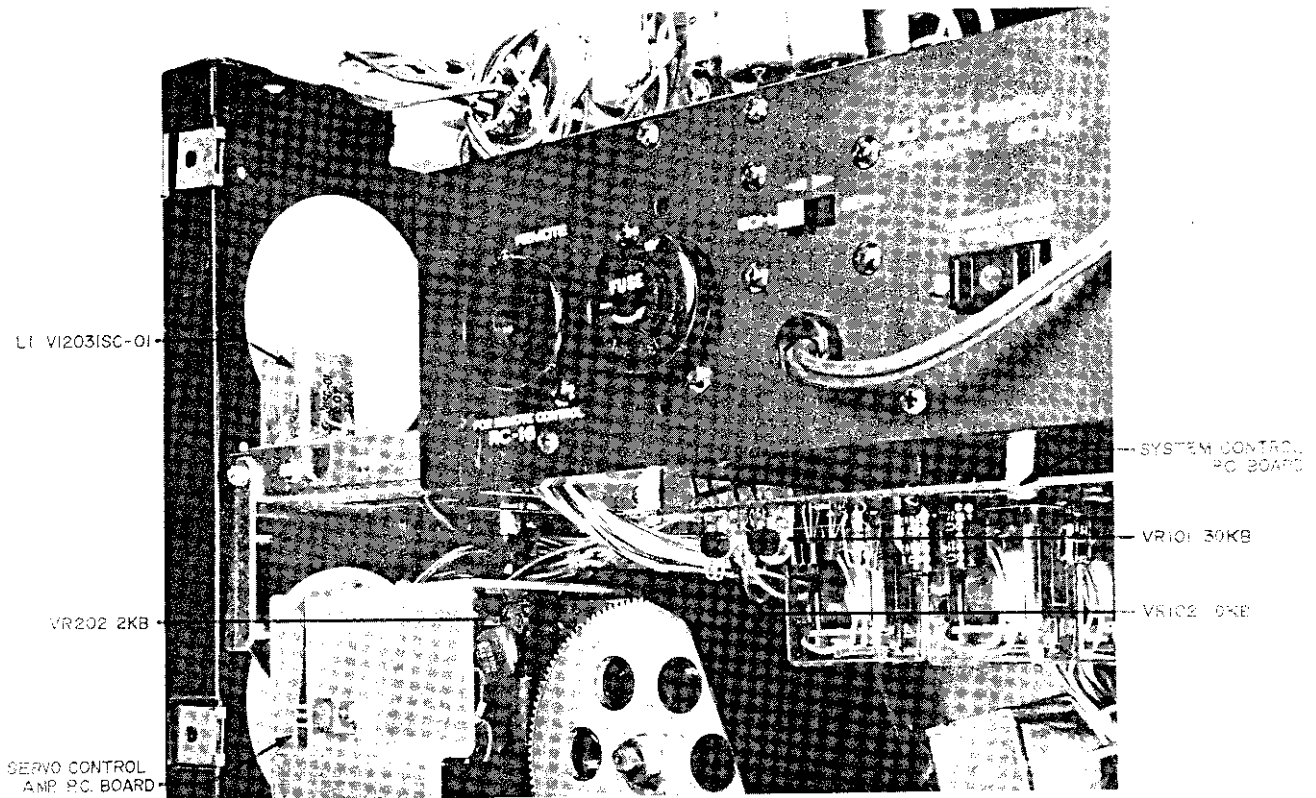

Fig. 9
- 3) Adjust the core of coil L1 (VI023SC-01) shown in Fig. 9 so that the Frequency Counter indication is 500 Hz  $\pm 1\%$ .
- 4) After the 3-3/4 ips (9.5 cm/sec.) tape speed adjustment has been completed, depress the 7-1/2 ips (19 cm/sec.) Tape Speed Selector and adjust Servo-Control P.C. Board semi-fixed resistor VR202 (2 kB) shown in Fig. 9 so that the frequency counter indication is 1,000 Hz  $+1/-0.5\%$ .
Adjust System Control P.C. Board semi-fixed resistor VR101 (30 kB) shown in Fig. 9 so that when the machine is switched from FWD to REV mode or from REV to FWD mode, the pinch wheel separates from the capstan in about 3 seconds.
- 2) Adjust System Control P.C. Board semi-fixed resistor VR102 (10 kB) shown in Fig. 9 so that when the machine is switched from F.FWD or RWD to FWD or REV mode, the time constant is about 1.5 seconds.